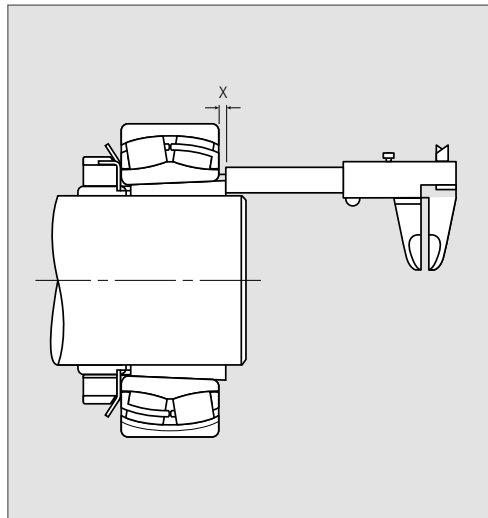

Fig. 3
5. Measure dimension 'X' as shown in Fig. 3.